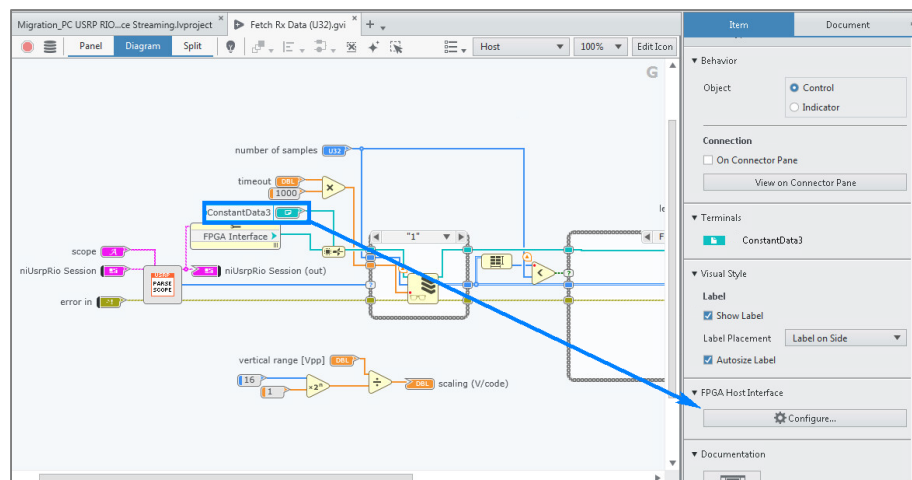

Figure 64: Configure Dialog in Right-Hand Rail
- a. Select "ConstantData3" and click **Configure** in the right-hand rail as shown in Figure 64.